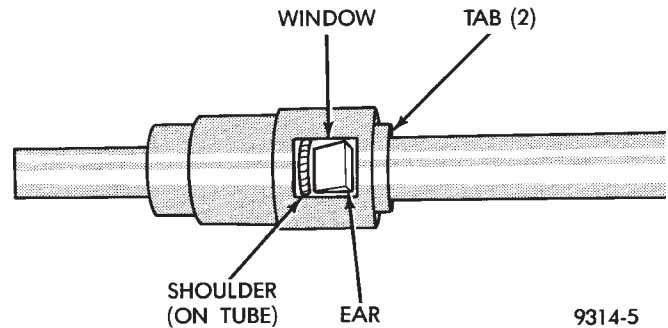

Fig. 9 Plastic Quick-Connect Fitting/Fuel Tube Connection
(1) Using a clean lint free cloth, clean the fuel tube nipple and retainer.
(2) Prior to connecting the fitting to the fuel tube, coat the fuel tube nipple with clean 30 weight engine oil.
(3) Push the quick-connect fitting over the fuel tube until the **retainer seats and a click is heard.**
(4) The plastic quick-connect fitting has windows in the sides of the casing. When the fitting completely attaches to the fuel tube, the retainer locking ears and the fuel tube shoulder are visible in the windows. If they are not visible, the retainer was not properly installed (Fig. 9). **Do not rely upon the audible click to confirm a secure connection.**